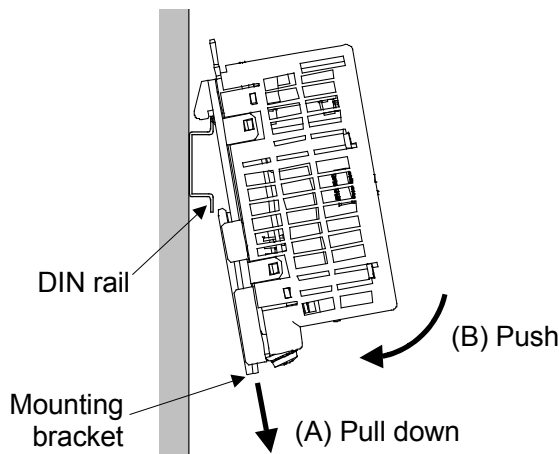

Fig. 2-3-3
2. Pull down the mounting bracket at the bottom of the instrument (A). Attach the hooks on the top of the instrument to the DIN rail and push the lower section into place on the DIN rail (B). (Fig. 2-3-3)